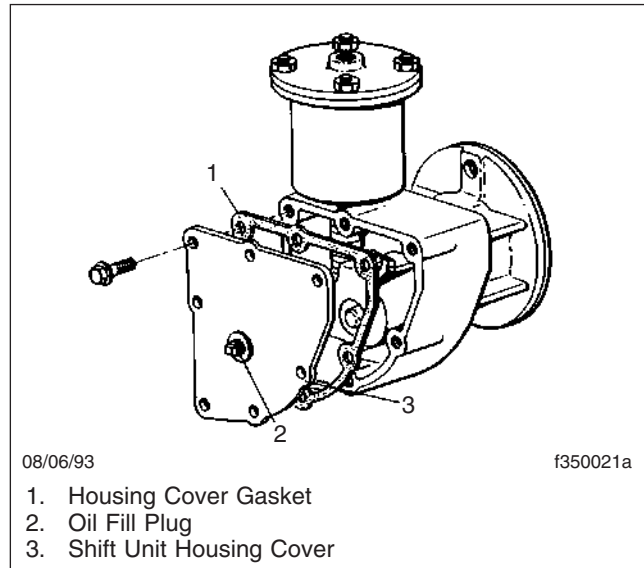

Fig. 6, Two-Speed-Axle Shift Unit
1. Remove the shift unit housing cover; see Fig. 6. Drain and discard the old lubricant. Discard the housing cover gasket.